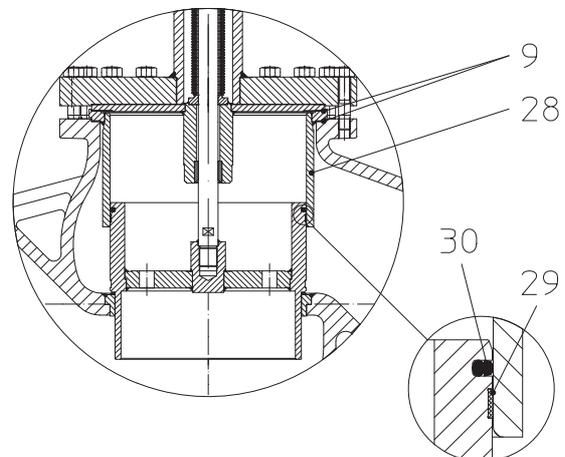

Fig. 12: Pressure balanced plug
- Remove plug as described in item 7.2.1.
- Prise worn piston seal (pos. 30) out of groove in plug with suitable tool (e.g. screwdriver).
- Insert new piston seal (pos. 30), taking care that it is in the correct position (refer to Fig. 12).
- Replace guide ring (pos. 29).
- Clean sliding surface of guide bush (pos. 28);